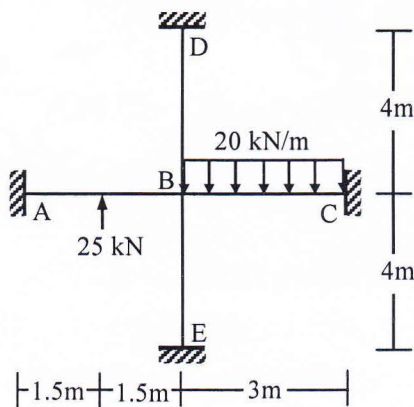

Fig 3
3. For the 3D truss $abcdefgh$ shown in Fig. 3 (with given nodal coordinates)
- For the frame shown $ABCDE$ loaded as shown in **Fig.3**, calculate the unknown deflection and rotations neglecting axial deformation [Given: $EI = 10^4 \text{ kN-m}^2$].